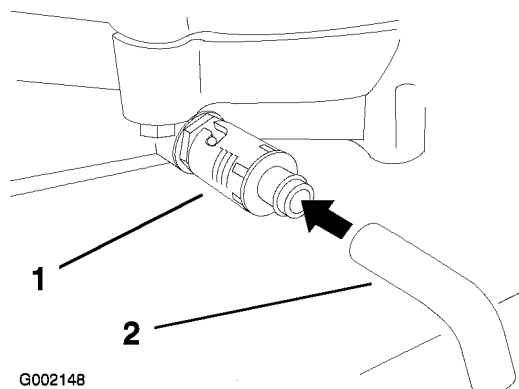

Figure 38
3. Grease the fittings on the 3 spindle bearings (Fig. 38).
4. Grease the idler pulley pivot (Fig. 38).
5. Place a pan below the drain. Rotate oil drain valve to allow oil to drain (Figure 38).